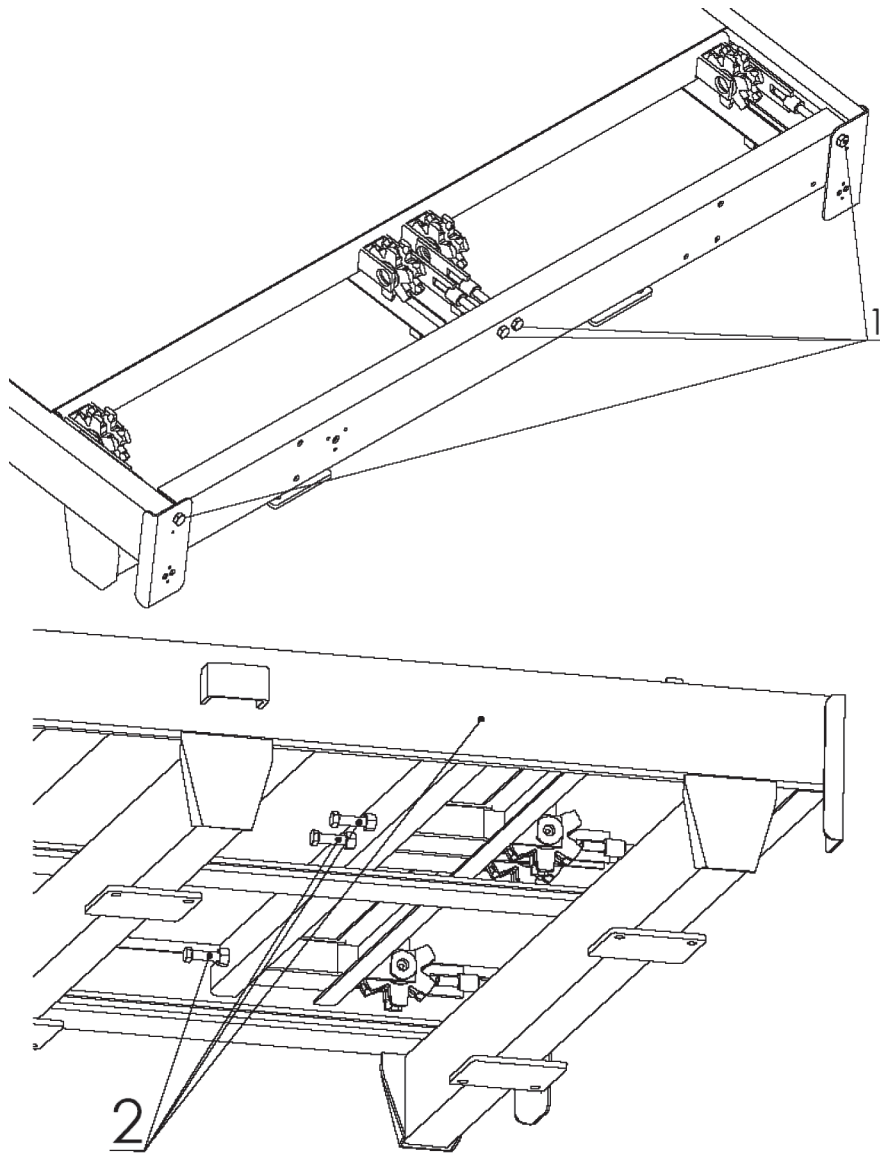

Fig. 4. Tensioning the conveyer chains
The conveyor chains are adjusted by the stretcher screws (see fig. 4 item 1) located on the front panel of the spreader. The tension of the chains is verified by lifting the chain at the middle of the body floor length. The distance of the chain from the floor should be **1–6 cm** when lifted. If the chain is stretched beyond the maximum adjustment value, replace the chain.